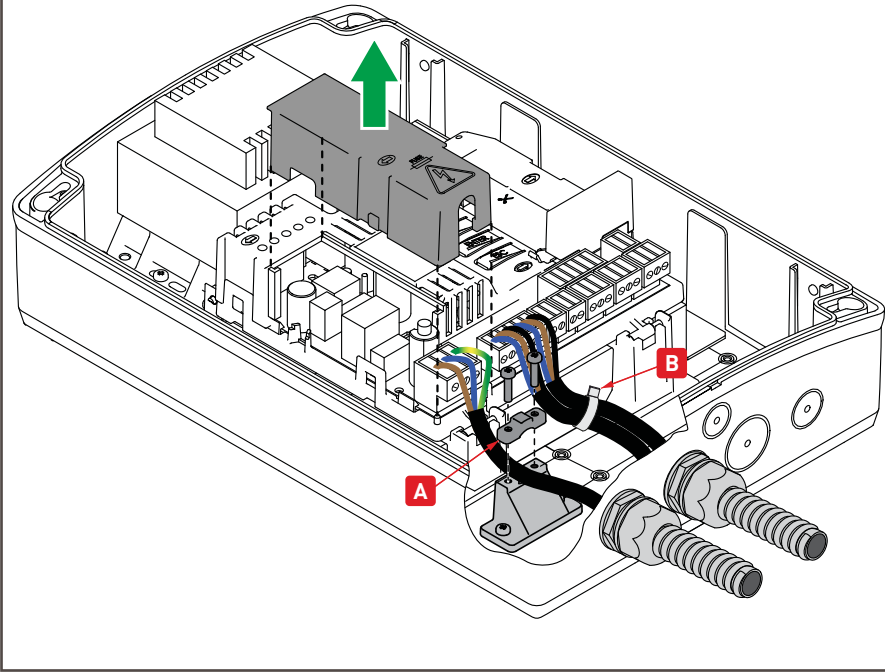

Fig. 4.4
- If necessary, fit the clip hinges on the bottom of the box and on the cover (left or right side, as preferred) (Fig. 4.4, page 6).